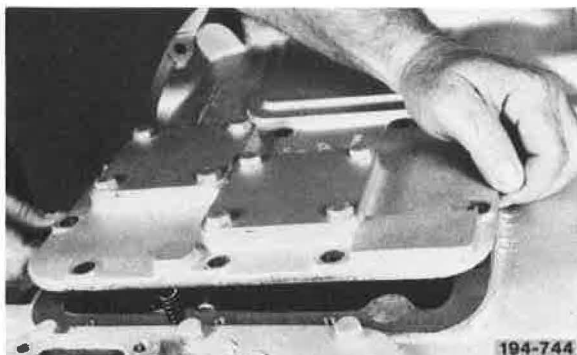

Figure 419. Installing Cover
37. Install front compound top cover, and tighten capscrews to 24 to 30 lb. ft. torque. Refer to Torque and Tolerance Table, Item 3. See Figure 419.